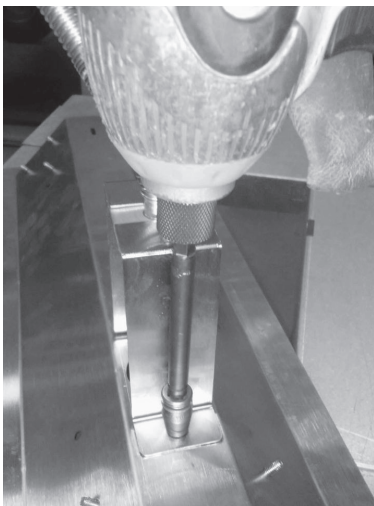

Figure 5.2 Attach Flexible Bulk Head and Bracket to Pan
5. Attach bulk head and bracket to bottom of pan with hex screws provided. See Figure 5.2.